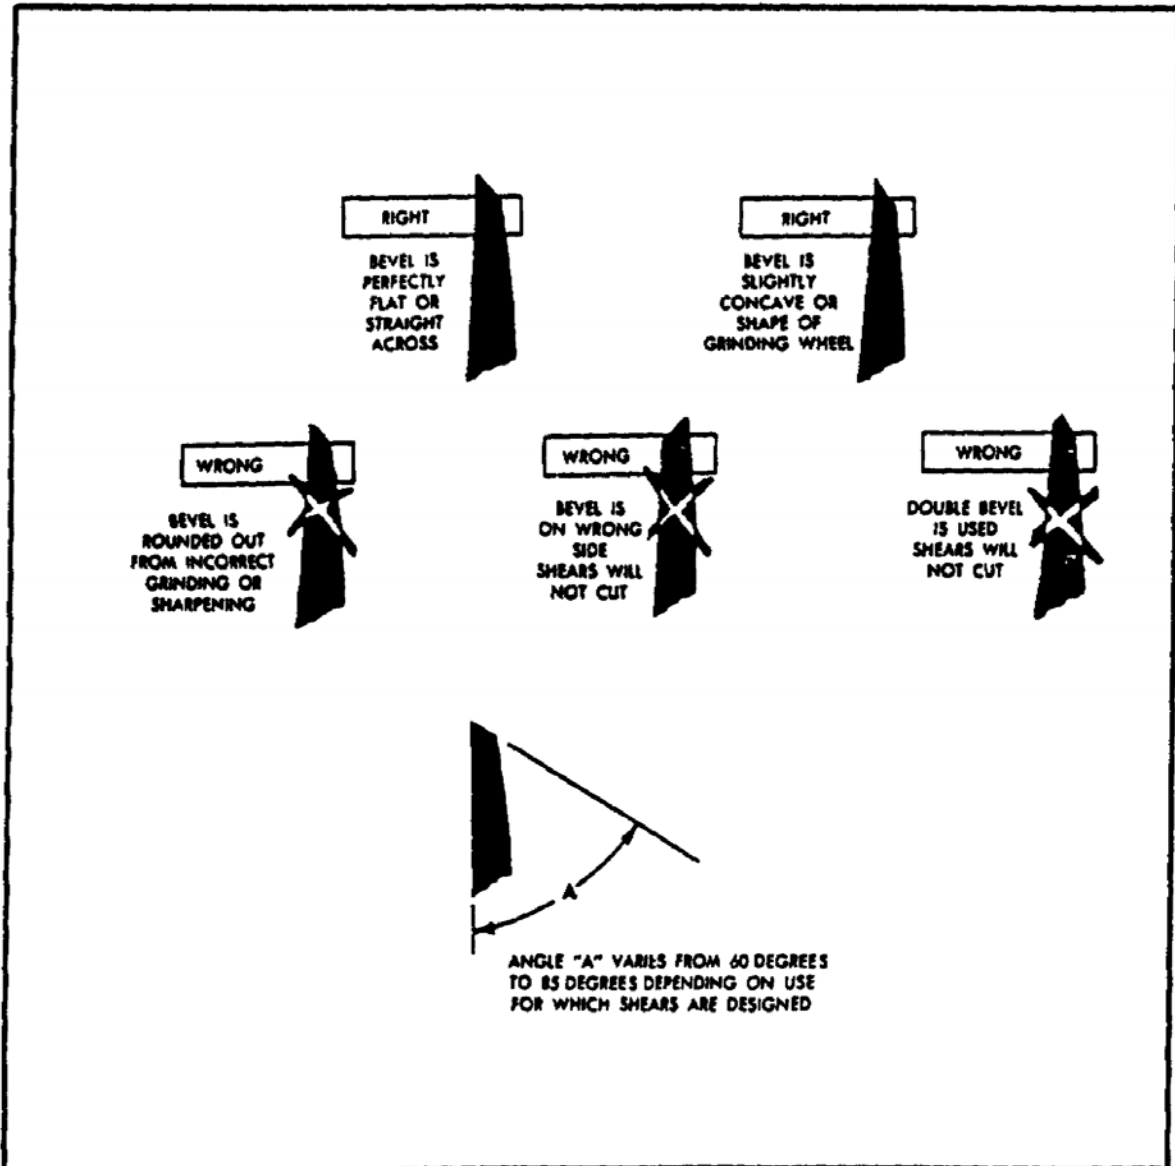

FIGURE 117. GRINDING ANGLES FOR SHEARS.
(3) *Grinding*. If the blades of shears are nicked, damaged, or if the bevel is distorted by improper sharpening or prolonged use, it is necessary to grind them. A single bevel is used; it may be flat or concave, but never convex (figure 117). The bevel angle varies with the type of work for which the shears are used. The bevel usually makes an angle of from  $60^{\circ}$  to  $85^{\circ}$  with the flat inside face of the blade. Paper and cloth cutting shears are ground to a bevel of approximately  $60^{\circ}$ . Metal cutting shears are ground to a bevel of approximately  $85^{\circ}$ .